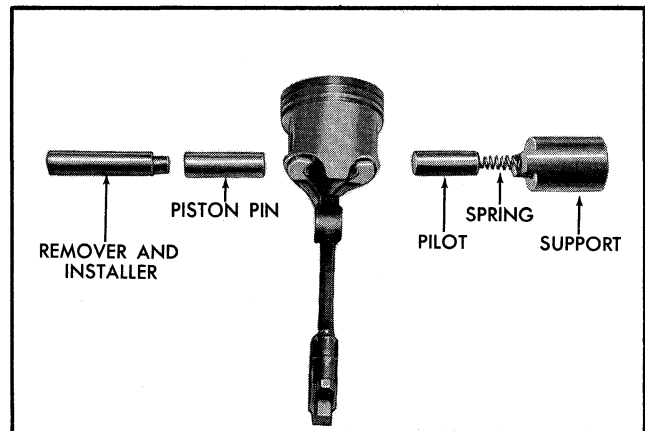

Fig. 6-70 Piston Pin Replacement
3. Install piston pin on installer and pilot spring and pilot in support (Fig. 6-70). Use piston pin removing and installing tool J-9510.